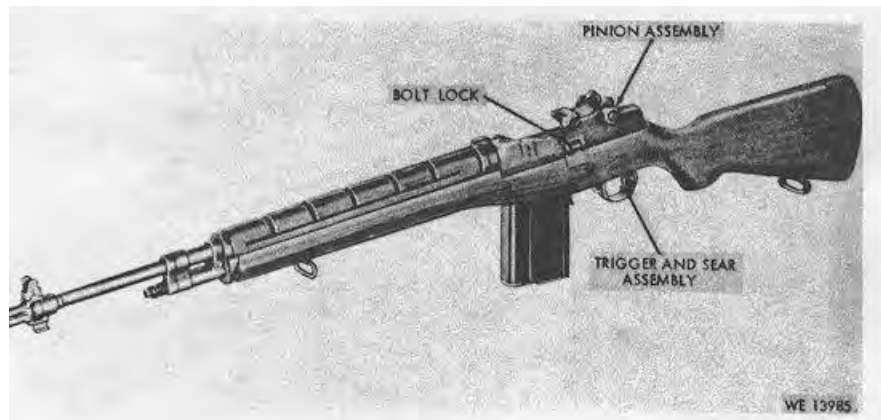
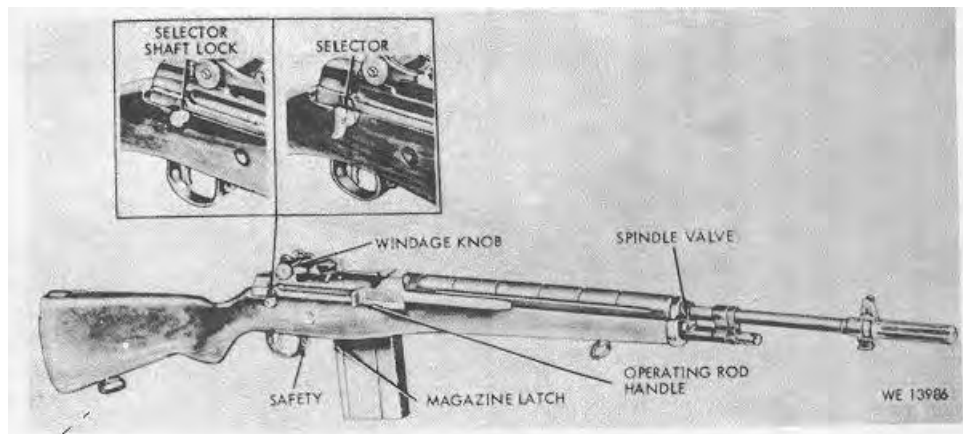
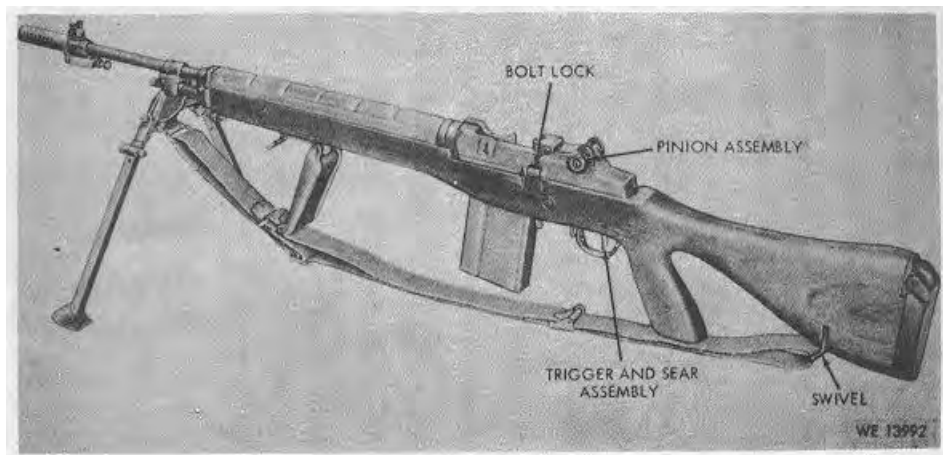

Figure 1-1. 7.62-MM Rifle M14-left front view.
Figure 1-2. 7.62-MM Rifle M14-right front view.
Figure 1-8. 7.62-MM Rifle M14A1-left rear view.
This manual contains information and instructions for the operator responsible for performing maintenance on 7.62-MM Rifle, M14, M14A1 and Rifle Bipod, M2, (figs. 1-1 through 1-10) as allocated by the Maintenance Allocation Chart (MAC).
a. The 7.62-MM Rifle, M14 or M14A1 (figs. 1-1 through 1-9) is a lightweight, air-cooled, gas operated, magazine fed, shoulder weapon, used primarily for semiautomatic or full automatic fire.
The Rifle M14A1 (figs. 1-8 and 1-9) differs from the Rifle M14 (figs. 1-1 through 1-7) in that it has a cushioned type butt plate to reduce the recoil force, a modified in-line pistol grip-type stock assembly with a folding shoulder rest, hand grip assembly, selector, and a stabilizer assembly. The stabilizer provides for muzzle compensation and reduces recoil action. The stabilizer fits over the flash suppressor and locks to the bayonet lug.
(1) The integral trigger and sear assembly (fig. 1-8) is part of the firing mechanism. When the trigger is squeezed it initiates the fire train, causing forward movement of the hammer. As the hammer goes forward, the firing pin strikes the primer in the head of the cartridge case causing it to ignite, thus initiating the main propellant in the body of the chambered cartridge. The pressure which is built up from the burning propellant causes the bullet to be propelled out the barrel of the weapon into flight.
(2) The trigger and sear assembly is located inside of the receiver assembly.
(1) The safety (figs. 1-2 and 1-9) prevents the rifle from being accidentally fired.
(2) The safety mechanism is located just forward of the trigger.
(3) The weapon will not fire when *safety* is in rear position.
(4) weapon will fire when *safety* is set in forward position.
d. Spindle Valve. The spindle valve controls gas flow. When the slot of the spindle is in the 12 o'clock position (ON), sufficient gas pressure is released to cause the rifle to function. However, when the slot of the spindle is in the 3 o'clock position (OFF), maximum gas pressure is built up to propel the rifle grenades. The spindle (figs. 1-2 and 1-9) further prevents the by-pass of gas into the gas cylinder.
e. *Rear Sight.* The rear sight (fig. 1-3) is used for the alignment of firer's line-of-fire with target (FM 23-71) to be fired upon. The lateral movement of the sight is regulated by the windage knob (fig. 1-2), whereas the sight elevation of the aperture is adjusted by the pinion, which is calibrated in meters. Turn pinion (fig. 1-1) clockwise to elevate.
f. *Operating Rod Handle.* The handle of the operating rod (fig. 1-2) must be used to manually operate the bolt for feeding, chambering, locking, and ejecting of cartridges. When the rifle is fired, gas pressure builds up in the gas cylinder (fig. 1-3) which forces the operating rod to the rear, thus initiating bolt action.